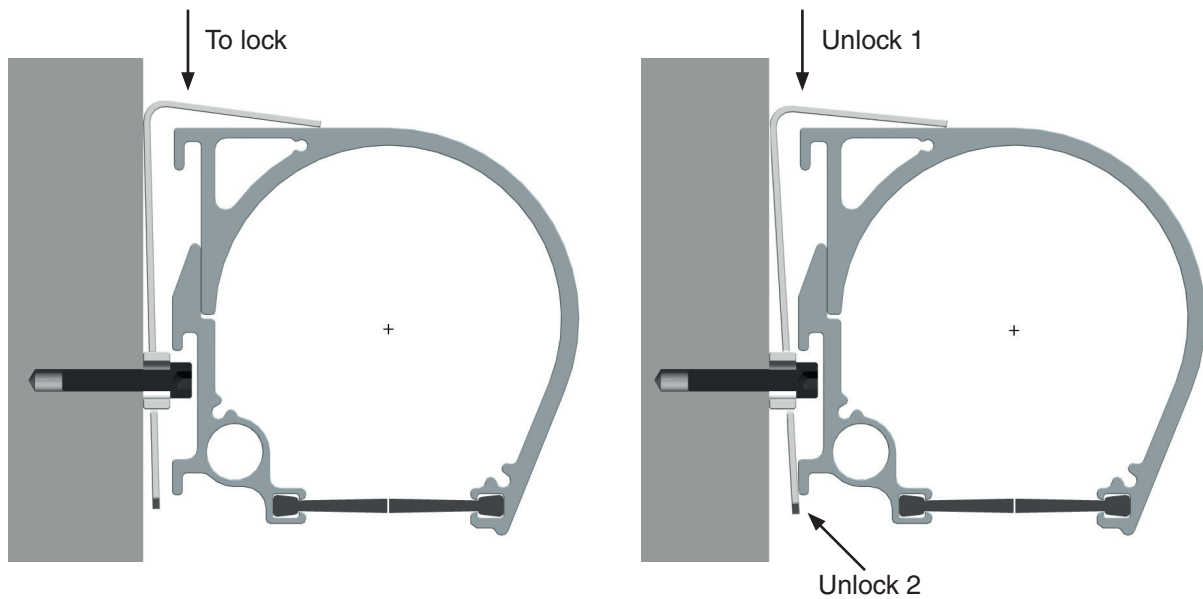

Figure 14 – Locking bracket operation
8. To unlock for removal, push down on the top of the locking bracket (unlock 1 – see Figure 14), simultaneously applying pressure to the bottom of the bracket (unlock 2 – see Figure 14) to force it away from the ducting. Release the pressure at unlock 1 and allow the locking bracket to relax upwards. Remove the locking bracket.